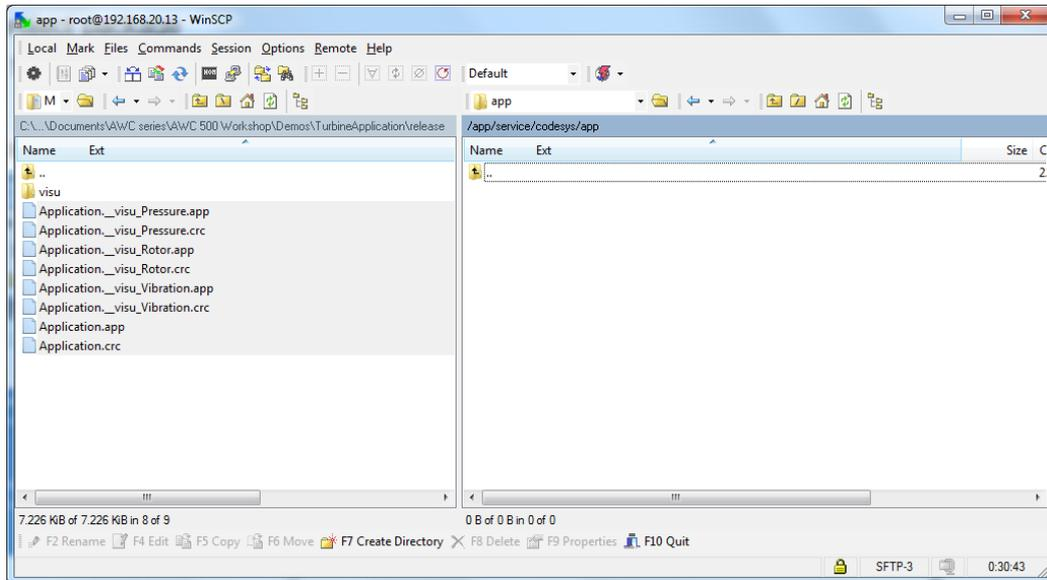

Figure 1.26: Remote upload procedure
4. Delete all files under /app/service/codesys/app (right pane Figure 1.26)
5. Upload all files (right pane Figure 1.26) under \release to /app/service/codesys/app